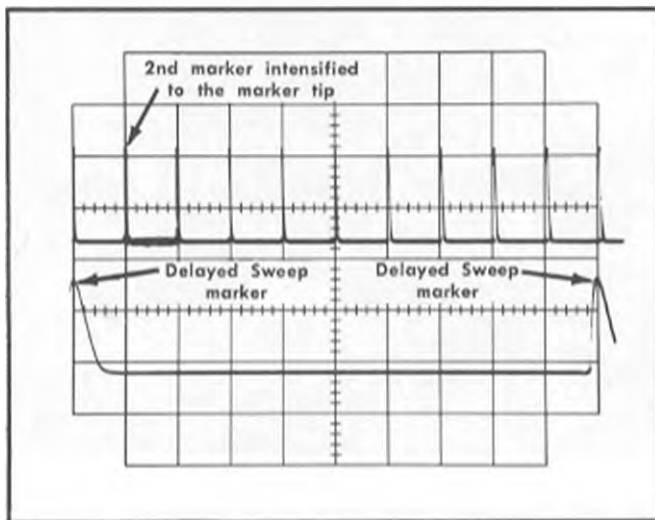

Fig. 6-44. Method of adjusting timing as described in step 49 (e).
Throughout the timing procedure the delayed sweep display on the Lower Beam is used as an aid in making accurate timing adjustments. Fig. 6-44 illustrates the correct method of positioning the delayed sweep display in relation to the delaying or A sweep. The use of a consistent method of positioning will result in a high degree of timing accuracy.
e. Set the DELAY-TIME MULTIPLIER dial so that the 2nd marker on the Upper Beam display is fully intensified to the marker tip, similar to the waveform shown in Fig. 6-44. The dial reading will be on or near 1.00; note the reading. Also note the position of the Lower Beam display markers.
g. Check—The 10th marker is intensified to the marker tip, similar to the waveform shown in Fig. 6-44.